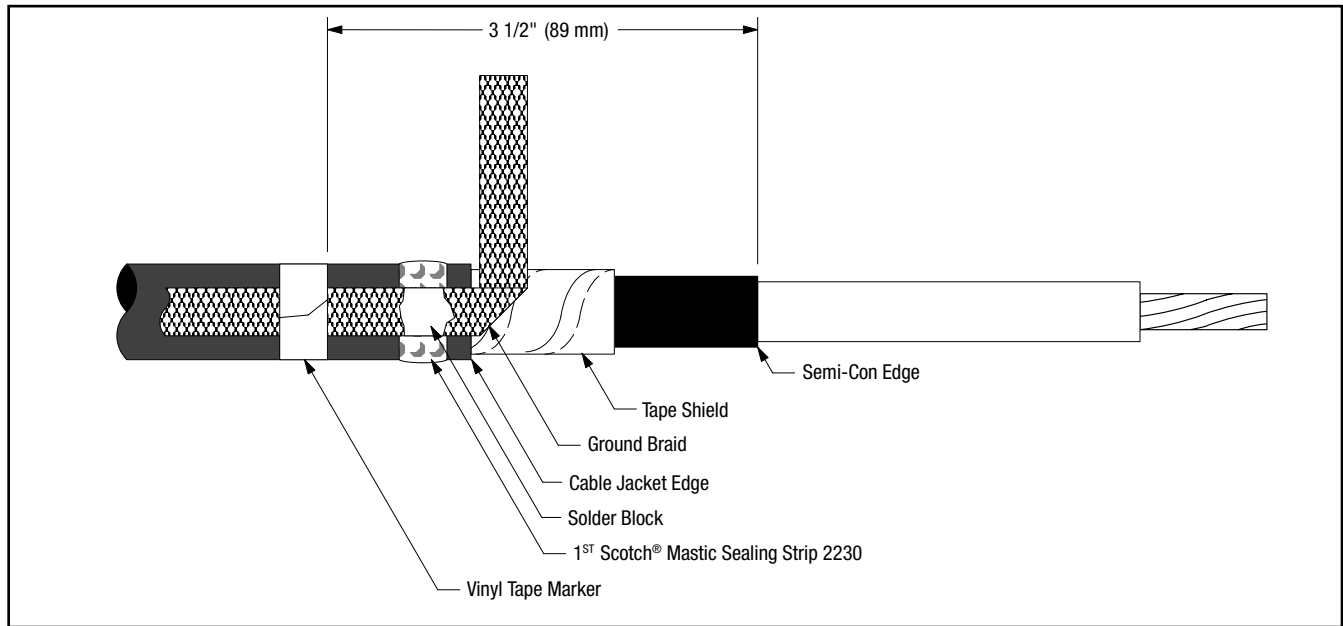

Figure 2
- 3.1 Position pre-formed ground braid with short tail over tape shield directly adjacent to cable jacket cut edge. PLEASE NOTE: The ground braid needs to make full contact with the metallic tape shield. Position long tail of ground braid, extending over cable jacket with solder block over Scotch® Mastic Sealing Strip 2230 (Figure 2). Secure ground braid to cable jacket 3 1/2" (89 mm) from cable semi-con edge using vinyl tape (Figure 2).